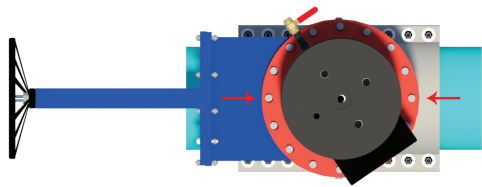

Figure 12 — Alignment nut placement for insertion housing alignment
3.1.2) Thread 2 alignment nuts onto the studs which connect the insertion housing to the temporary gate valve. Place these nuts at the locations shown (see Figure 12 on following page). Install alignment nuts so that the tapered part of the nut enters the flange hole. This may require adjustment of the tapping / installation housing.